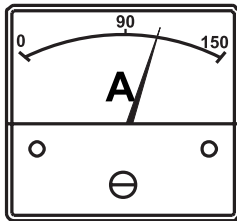

Figure 16. Ammeter (Load)
13. Observe the generator's ammeter (Figure 16) and verify it reads the anticipated amount of current with respect to the load. The ammeter will only display a current reading if a load is in use.